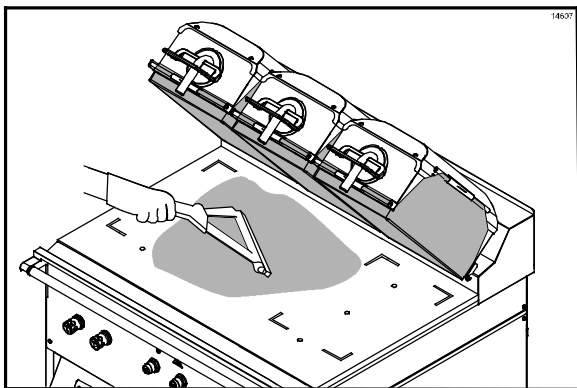

Figure 71
48. Using a clean squeegee, spread the flakes on the cooking zone. (See Figure 71.)